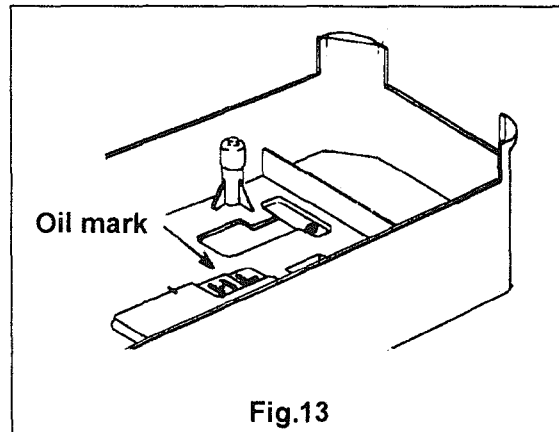
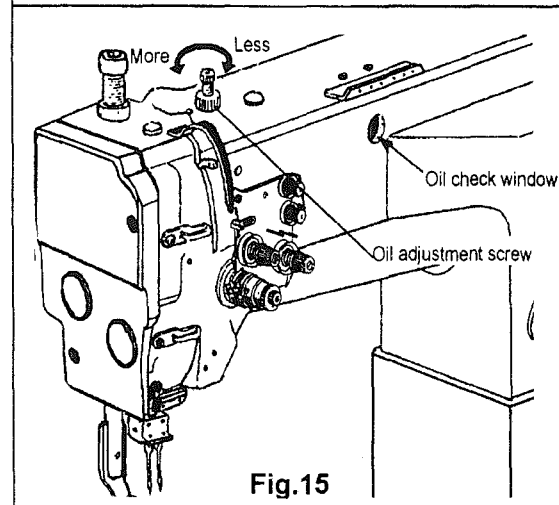

Fig.13
Fig.15
#### 14. Lubrication ( Fig.13、 Fig.14、 Fig.15):
1) Before starting operation, be sure to pour oil up to the position H of oil tank. If the oil below position L, replenish the oil supply up to position H. ( Fig.13 )
3) While operating the machine, check the condition of oil lubrication through the oil check window. The oil amount can be adjusted by oil adjustment screw. ( Fig.15 )